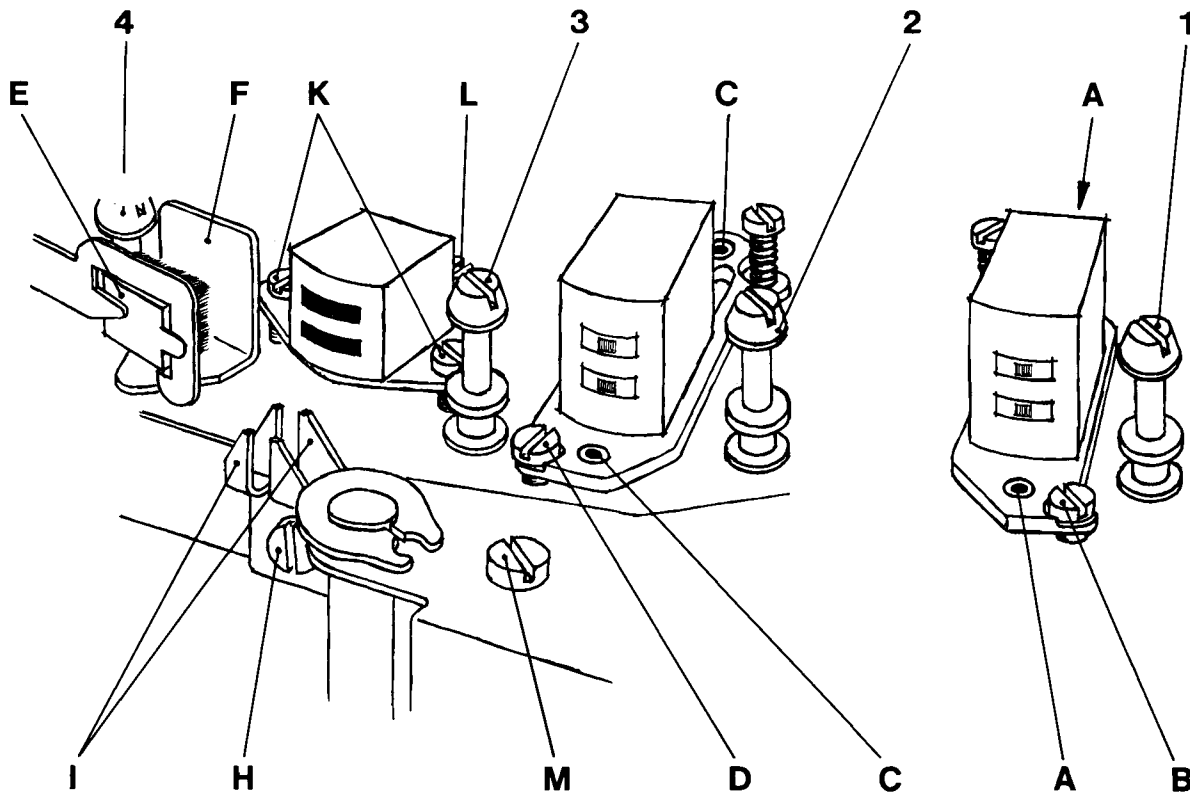
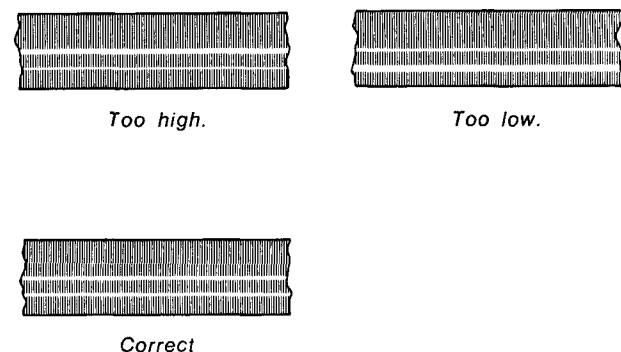

Fig. 4.1. Tape path adjustment screws.
Fig. 7.2. Track measurement of erase head.
Insert a new tape, and start the recorder in normal forward drive. Check visually that the tape appears to run parallel with the upper track of the record head, with a play of approx. 0.1 mm (4 mils). If necessary, adjust the height with screws (C) fig. 4.1, while endeavouring to maintain the headfront parallel to the tape.
Set the tape recorder in stereo record mode, and unscrew the locking screw (H) fig. 4.1, about $\frac{1}{2}$ turn. Connect a VTVM across each one of the record head halves. Move the bias head up or down by means of adjustment screw (M) for the highest possible reading on the voltmeter. Check that the tape runs freely in the groove in front of the bias head and that there is sufficient clearance between the bias head and the mounting plate for the record head. The height position of the bias head is not critical, and if the clearance between the bias head and the mounting plate for the record head is insufficient, raise the bias head slightly.
Connect a VTVM across each one of the record head-halves, and set the tape recorder for stereo recording. Insert a screwdriver in groove I, ref. fig. 4.1, and pull the bias head to the right.
By visual inspection, check that approx. 0.25 mm (10 mils) of the upper half of the erase head is visible above the tape. Insert Tandberg test tape No. 9 and record a 400 Hz signal at 7 $\frac{1}{2}$ ips well above normal level on channel R (track 3). Dip the tape in a solution of fine grained iron oxide powder and alcohol (Magna See solution). Check that the recorded track is positioned in centre of the erased track. Make sure that no parts of the adjacent tracks are erased, see fig. 7.2. If necessary, adjust the height of the erase head by means of the screws (K) and (L) ref. fig. 4.1, and repeat the above check.
Check that the head front of the erase head is perpendicular to the mounting plate. If necessary, adjust azimuth position by means of the screws (K) ref. fig. 4.1. This adjustment is not critical.
The height of the playback head is aligned by the height adjustment screws (A), ref. fig. 4.1. The upper edge of the tape shall run flush with the upper part of the head lamination for channel L.
Set OUTPUT selector to position STEREO. Play back a standard azimuth alignment tape with a VTVM connected to each output. Adjust the position of the playback head by the azimuth adjustment screw (B) ref. fig. 4.1, until maximum reading is obtained on the output meters.
The height of the erase head is aligned by the height adjustment screws (K and L) ref. fig. 4.1. Approx. 0.25 mm (10 mils) of the ferrite core for the upper track of the erase head should be visible above the tape.
Insert a full-track prerecorded tape and record a 1.000 Hz signal from a generator, well above optimum recording level in mono on track 3 (channel R). Cut the tape and dip it into the Magna See solution. Check that the prerecorded track is in the centre of the erased area, ref. fig. 7.2. Adjust the vertical position of the erase head if necessary.
The height of the erase head is aligned by the adjustment screws (K and L) ref. fig. 4.1. Record a 1.000 Hz signal in stereo well above optimum recording level on a full-track prerecorded tape. Dip the tape in the Magna See solution and check that the tracks are distributed symmetrically across the tape. Readjust the erase and the record heads, if necessary.